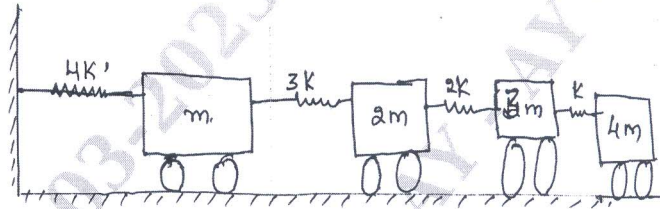

Fig.Q9
- 9 Using Stodola method, determine the lowest natural frequency of the four degree of freedom of spring mass system shown in Fig.Q9.